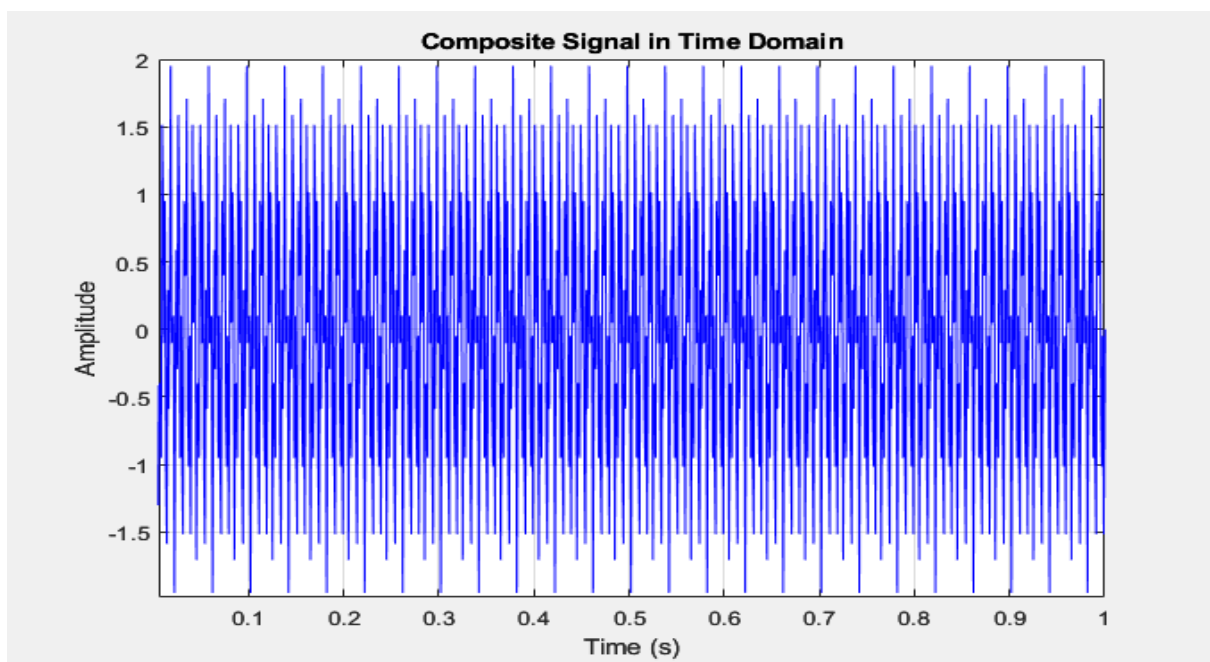

Figure 5. Time-Domain Representation of the Composite Input Signal
10. Write a MATLAB code to generate a discrete composite signal (x) consisting of a low-frequency component of 125 Hz and a high-frequency component of 350 Hz, using a sampling rate of 1000 Hz. Visualize the composite signal in the time domain as shown in Figure 5